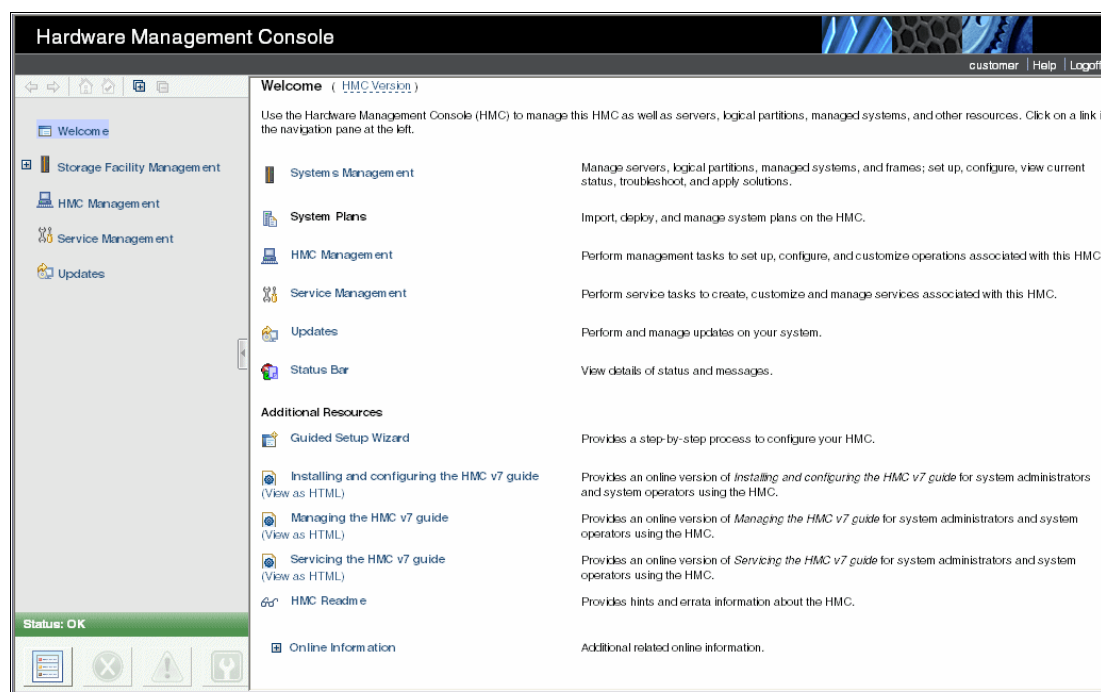

Figure 16-2 HMC Service Management
1. Log into the Service Management section on the HMC Management console (Figure 16-2).